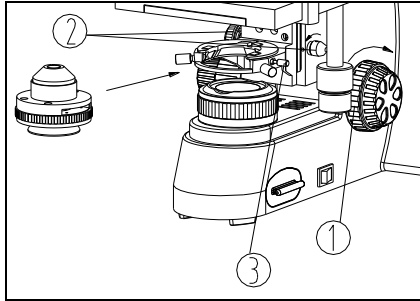

Fig. 4
1. Rotate the coarse focusing knob① to raise the stage to the highest position (see Fig. 4).
2. Rotate the condenser up-down knob② to lower the bracket of condenser to the suitable position.
3. Fully loosen the condenser lock-screw③.
5. Tighten the lock-screw③ of condenser, then raise the condenser with the up-down knob to the highest position.